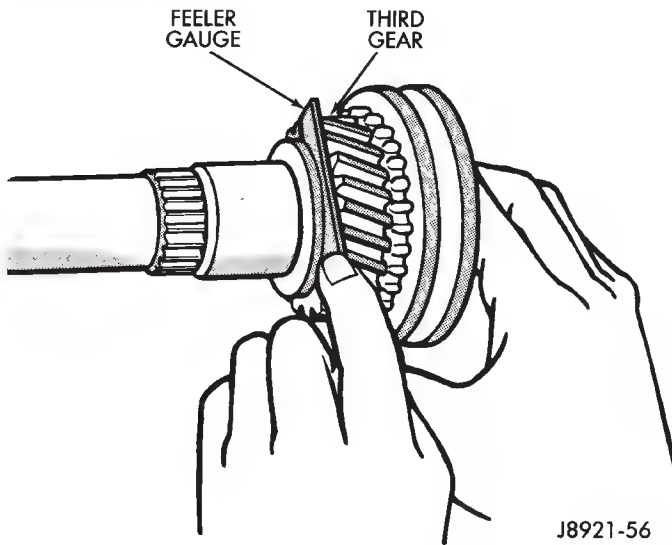

Fig. 49 Checking Third Gear Clearance
(9) Verify third gear thrust clearance with feeler gauge (Fig. 49). Clearance should be 0.10 - 0.25 mm (0.004 - 0.010 in.).